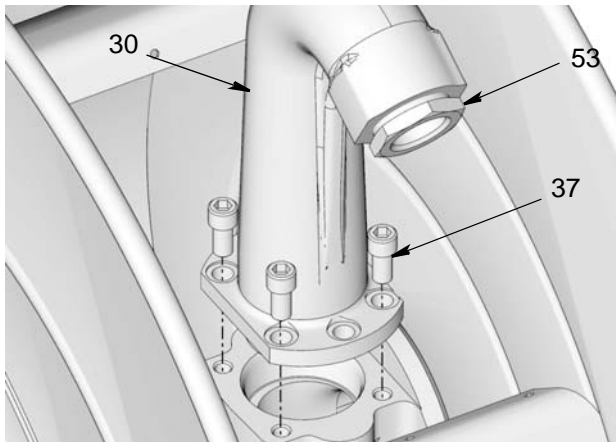

FIG. 62: Low Pressure Outlet shown. Medium Pressure models use 6 bolts.
3. For easier hose installation, Graco recommends removing the outlet (30) from the spool. To do this remove bolts (37) holding outlet to the spool (FIG. 62).
4. Apply pipe thread sealant or wrap PTFE tape around the threads of reducer (53) (if needed). Then install reducer (53) in the end of the outlet (FIG. 62). Use two wrenches on the flats, working in opposite directions, to securely tighten the reducer to the outlet fitting.